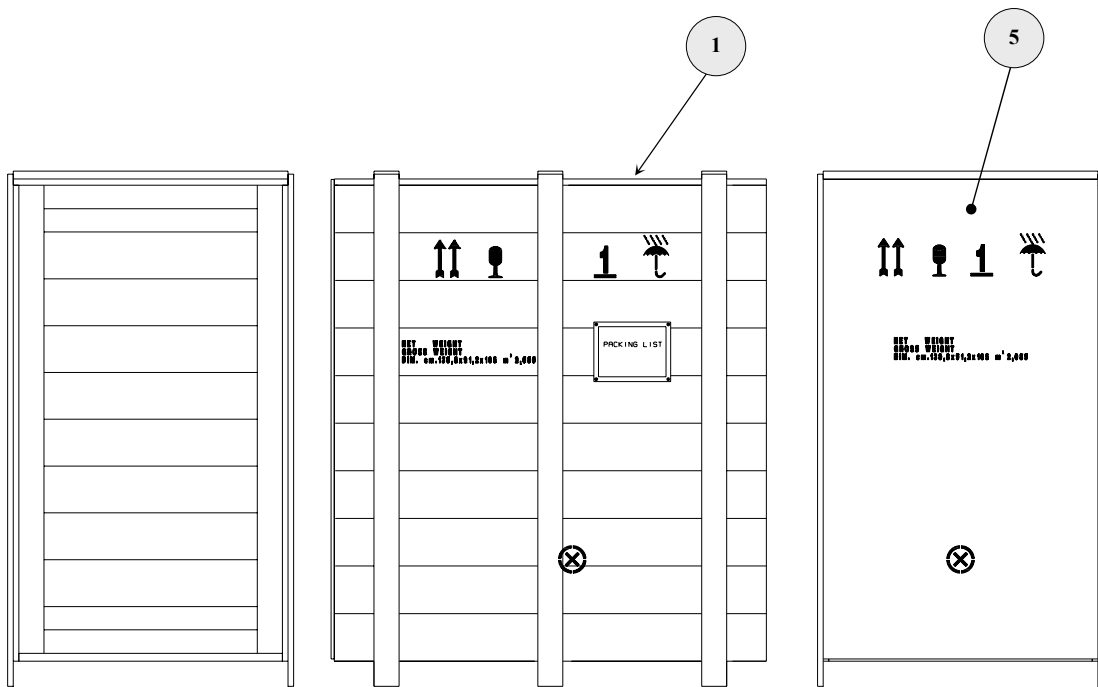

FIGURE 4 - WOOD CRATE
1. Dismantle the crate cover (1) – SEE FIGURE 4